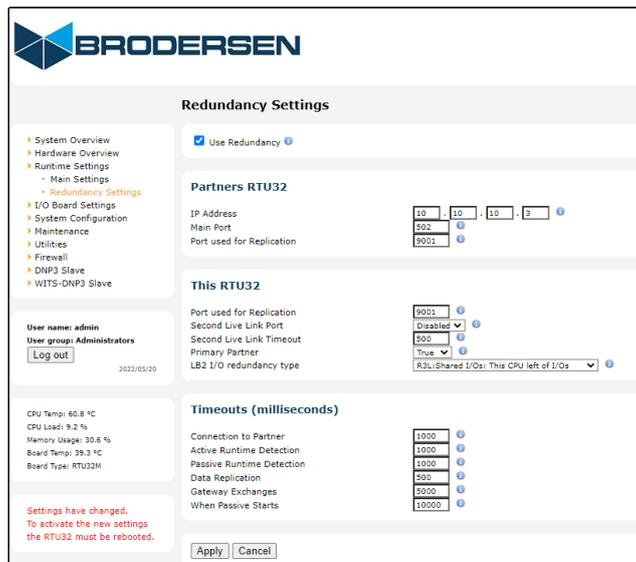

Figure 3
- 6- Open network tab on "System Configuration\Network". See Figure 3.
10- Open network tab on “System Configuration\Network”. See Figure 3.
15- Set the redundant partner system configuration in "Runtime system\Redundancy Settings\Partners RTU32". See Figure 3.